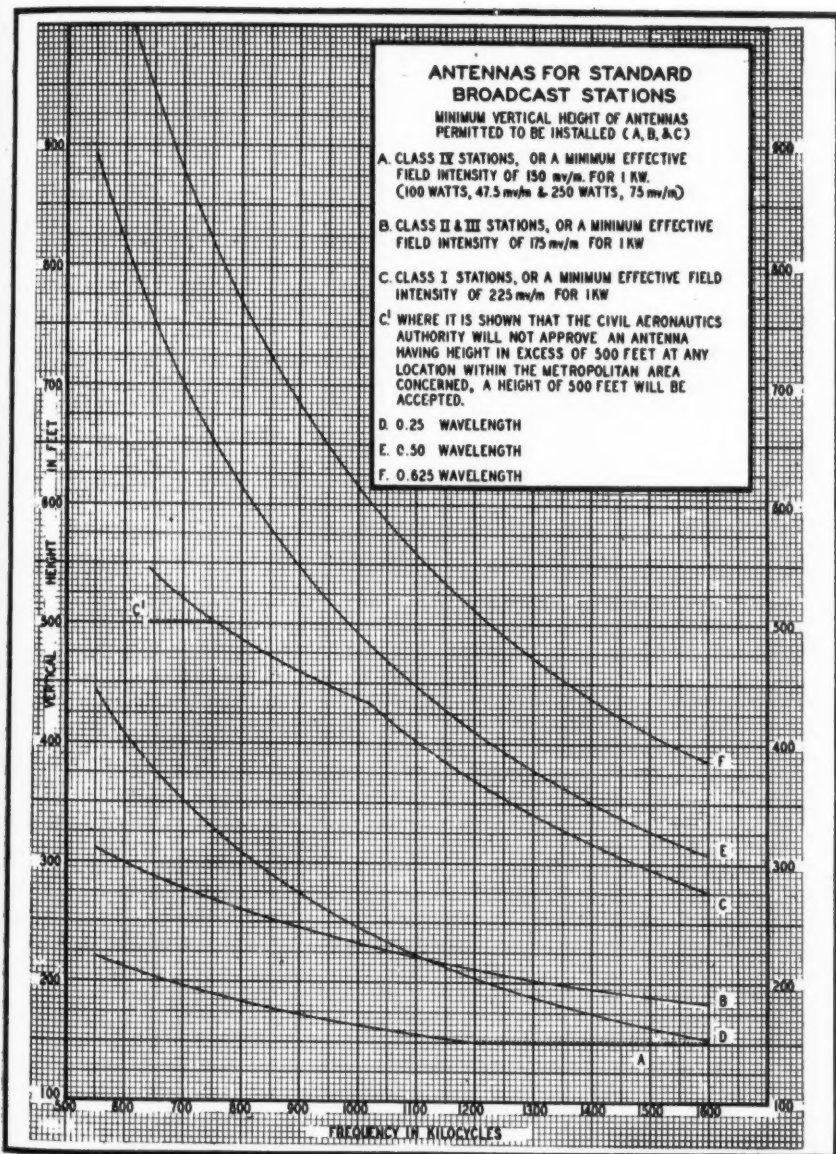

Fig. 2. Minimum physical vertical antenna heights for various service requirements
1. In the case of a Class 1 station not less than 90% of the ground wave field that would be obtained from an antenna of the height shown in Fig. 2 for operation on frequencies below 1000 kc.